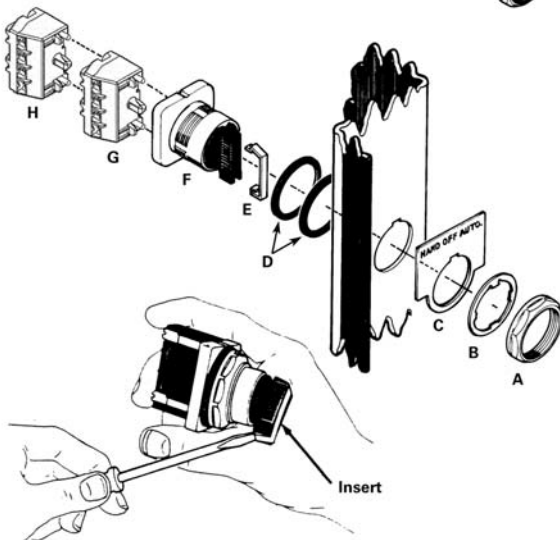

Figure 1
1. Remove lock nut **A**, index locking ring **B** and legend plate **C** from the selector switch base **F**. If a different color lever insert is required, pry out white insert with a small screwdriver as shown in Figure 1 detail. Snap in new color insert.